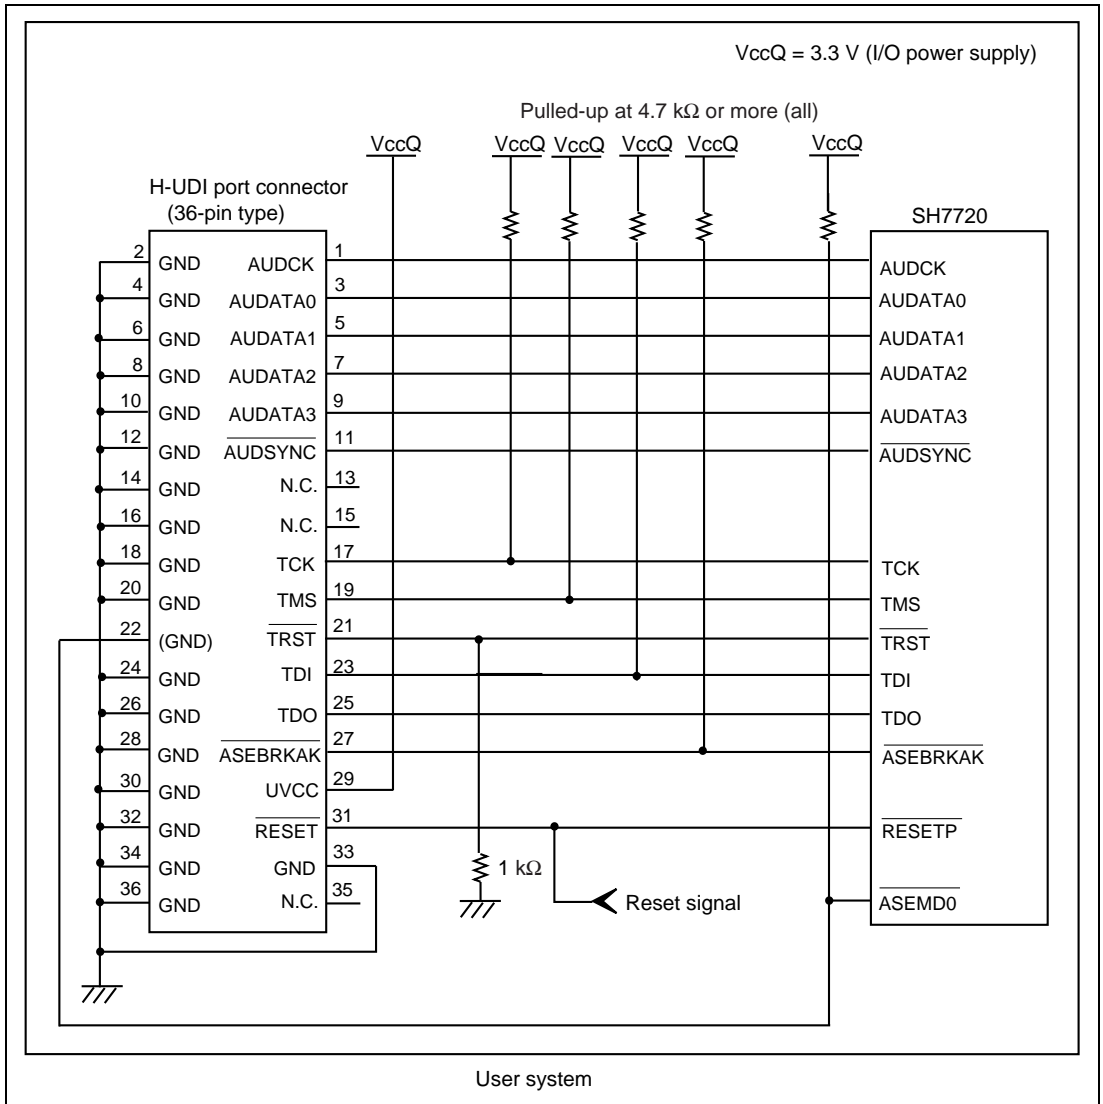
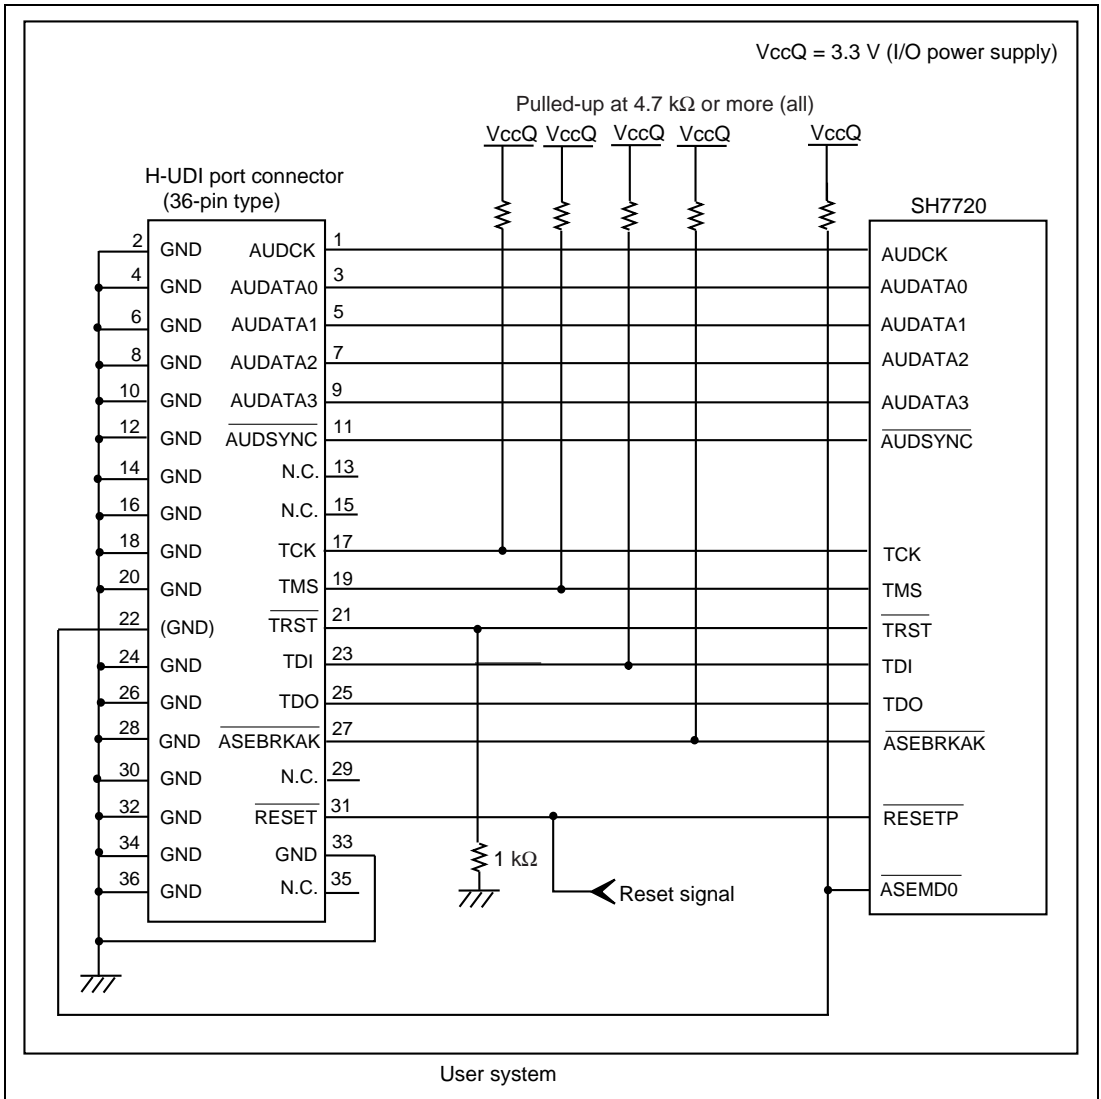

Figure 1.3 Recommended Circuit for Connection between the H-UDI Port Connector and MPU when the Emulator is in Use (36-Pin Type UVCC Connected)
Figure 1.4 Circuit for Connection between the H-UDI Port Connector and MPU when the Emulator is in Use (36-Pin Type UVCC Not Connected*)
Figure 1.3 shows a recommended circuit for connection between the H-UDI and AUD port connectors (36 pins) and the MPU when the emulator is in use. Figure 1.4 shows a circuit for connection when UVCC is not connected.
- (1) When the emulator is used: /ASEMD0 = 0 (ASE mode)
- (2) When the emulator is not used: /ASEMD0 = 1 (normal mode)Figures 1.3 and 1.4 show examples of circuits that allow the /ASEMD0 pin to be GND (0) whenever the emulator is connected by using the user system interface cable. When the /ASEMD0 pin is changed by switches, etc., ground pin 22. Do not connect this pin to the /ASEMD0 pin.
5. When the power supply of the user system is turned off, supplying VccQ of the user system to the UVCC pin reduces the leakage current from the emulator to the user system. A level shifter that is activated by the internal power supply or user power supply (changed by the switch) is installed in the interface circuit of the emulator. If the user power is supplied to the UVCC pin, the level shifter is not activated as long as no user power is supplied. When the power supply of the user system is turned off, no current flows from the user interface. The I/O voltage level of the user system interface can be the same as that of the VccQ. To operate the emulator with low voltage (lower than 3.3 V), the VccQ must be supplied to the UVCC pin. Make the emulator's switch settings so that the VccQ will be supplied (SW2 = 1 and SW3 = 1) (as shown in figure 1.3).
When the circuit is connected as shown in figure 1.3, the switches of the emulator are set as SW2 = 1 and SW3 = 1. For details, refer to section 3.8, Setting the DIP Switches, in the SuperH™ Family E10A-USB Emulator User's Manual.
When the circuit is connected as shown in figure 1.4, the switches of the emulator are set as SW2 = 0 and SW3 = 1. For details, refer to section 3.8, Setting the DIP Switches, in the SuperH™ Family E10A-USB Emulator User’s Manual.